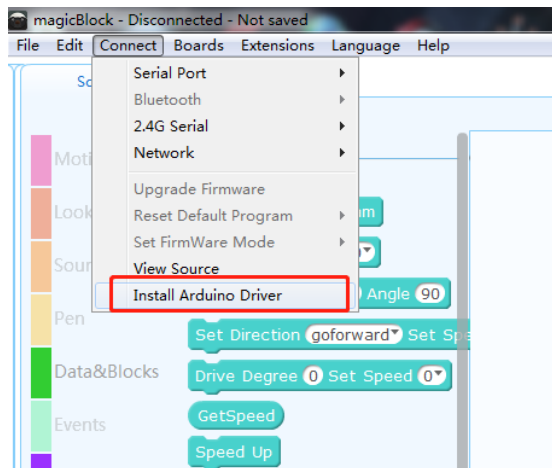

Figure 2-2-1
- 2) Install the driver of Panther-Tank Master Control Board, click "Connect to Install Arduino Driver" as shown in Figure 2-2-1, and click "Install" as shown in Figure 2-2-1.